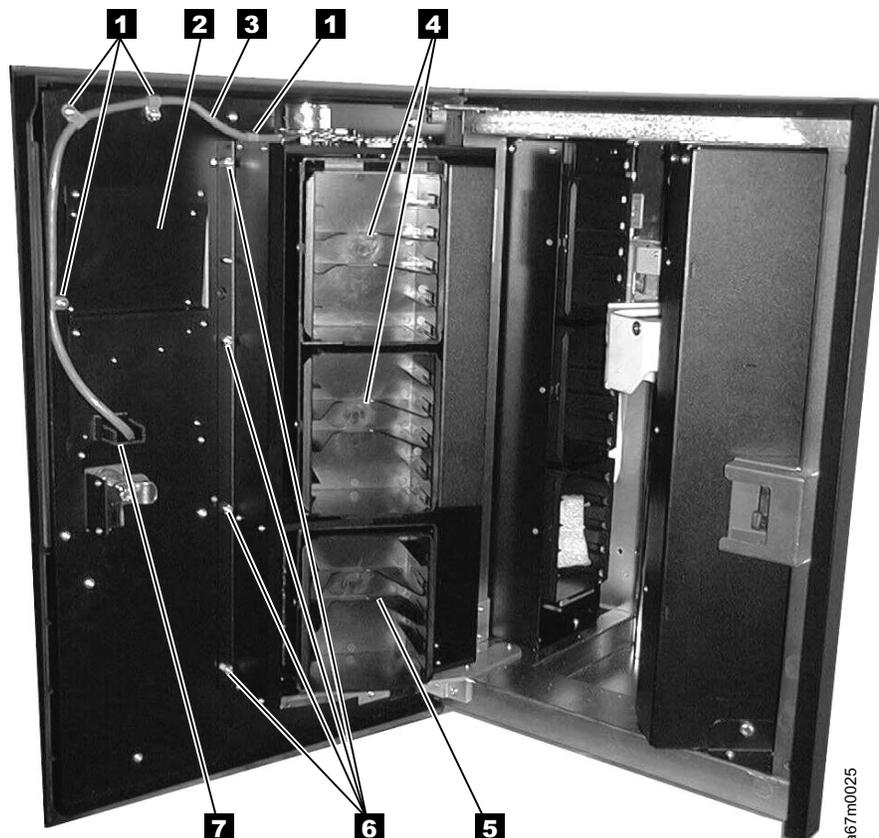

Figure 7-40. I/O Station Removal and Replacement
5. See Figure 7-40, disconnect the I/O Station cable harness **3** from the Display Assembly **2** by disconnecting cable connector **7**.
5. See Figure 7-40 on page 7-46, disconnect the I/O Station cable harness **3** from the Display Assembly **2** by disconnecting cable connector **7**.